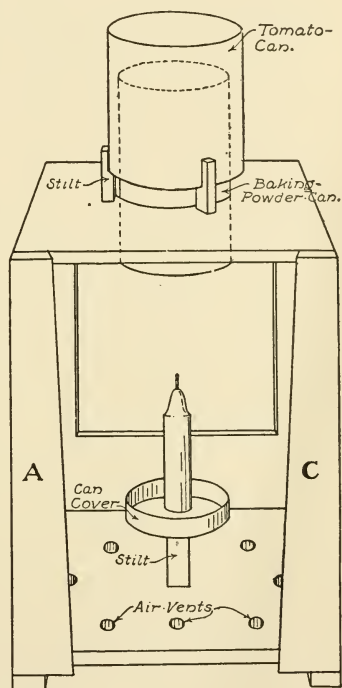

FIG. 176. — A Home-made Dark-room Lantern.
**A Home-made Lantern**, such as is illustrated in Fig. 176, will be found very satisfactory. It is made out of a wooden box about ten by ten by twelve inches. Cut two openings six inches square in two sides of the box and cover one with one sheet and the other with two sheets of orange or red paper, spreading paste over the entire surface of the paper to make it stretch tightly over the openings as it dries. The orange and red wrappers of some makes of printing papers and developing powders can be used for the covering of these openings.
can, remove the cover and bottom, and insert it in a hole cut for it in the top of the box. Then an arrangement must be made, as shown in Fig. 176, to prevent light from emitting from the top of the can. This consists of a tomato-can placed over the baking-powder can, bottom side up, with its edge fastened in kerfs cut in the ends of four wooden stilts (see illustration). Drive the stilts firmly into holes bored for them in the top of the box. The
door, which should be made in three pieces, with the edges cut and bevelled as shown in Figs. 176 and 177. Nail strips *A* and *C* to the back of the box, and slip *B* between them. A screw-eye near the bottom of *B* will serve as a lift in opening the lantern. As the edges of the strips are cut on a slant and bevelled, a joint which cannot possibly leak light is obtained when *B* is slipped into place. All cracks in the box should be carefully filled with white lead.